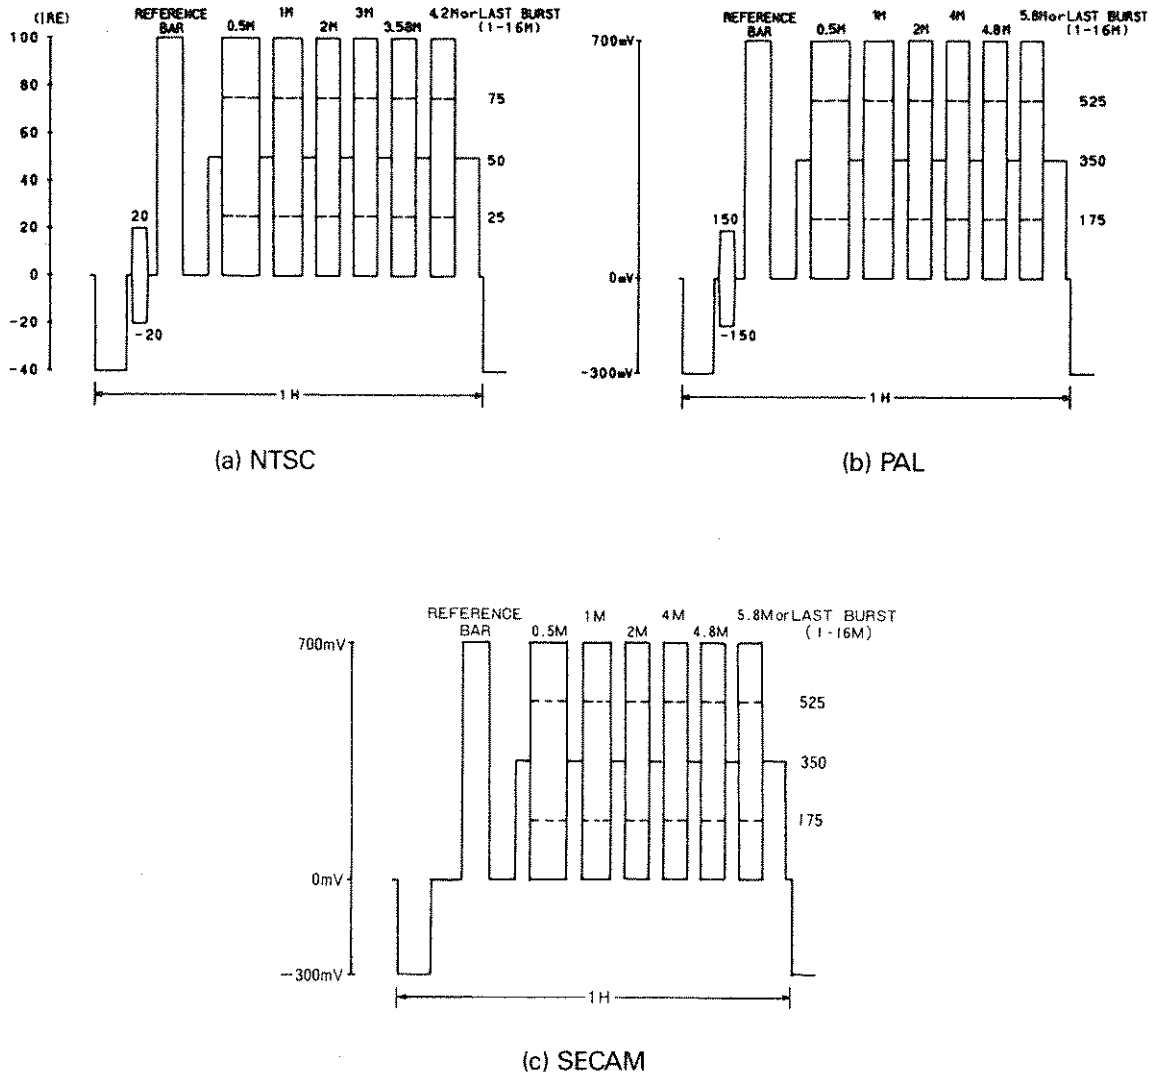

Figure 5.11
5.3.1 Multiburst Pattern (Figure 5.11)
to check frequency response of the video system. Figure 5.11 shows the waveforms.